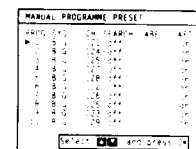

Fig. 23.
- 3 Select Manual Programme Preset with + or - and press OK. The MANUAL PROGRAMME PRESET menu appears. (See Fig. 23.)